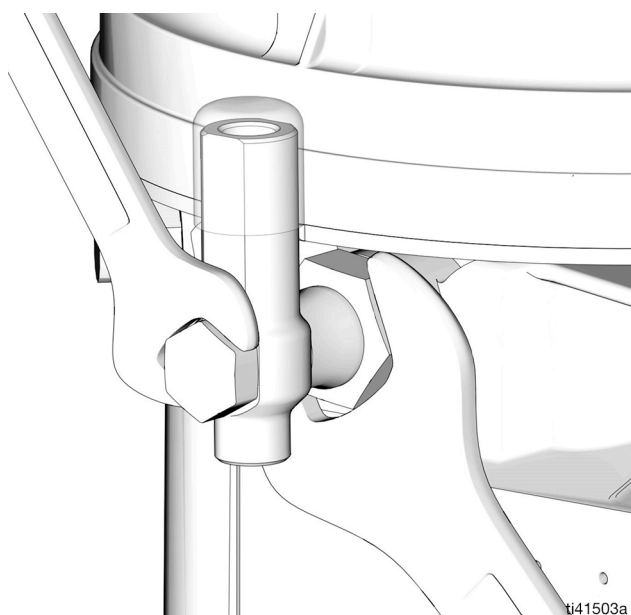

FIG. 15
Relieve Pressure at the pump element using two wrenches working in opposite directions on the pump element and pump element fitting to slowly loosen fitting only until fitting is loose and no more lubricant or air is leaking from the fitting. Repeat for each pump element installed (FIG. 15).
- Always use two wrenches working in opposite directions when connecting anything to pump element or auxiliary fittings. See FIG. 15 for an example.